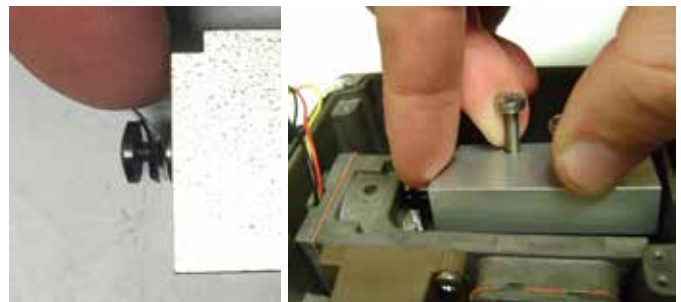

Figure 36: Inserting the Double Acting Block Assembly
5. Ensure the spool is oriented properly in the block. Ensure the clip spring is oriented properly on the spool. See Figure 36: Inserting the Double Acting Block Assembly. Holding the block level, slide the spool/block/clip spring assembly onto the manifold ensuring the proper placement of the spool and clip spring into the piston slot and tighten the 2 spool block screws.